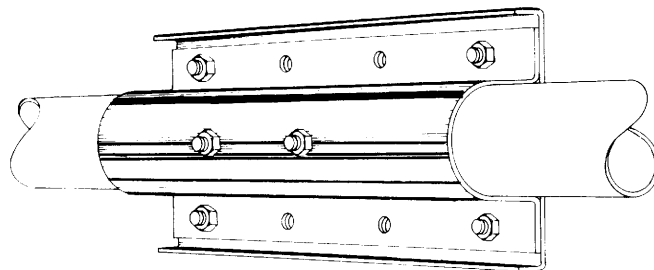

Figure 3
Select the boom-to-bracket clamp parts (items 2 and 3). Loosely assemble them on the drilled ends of the two boom sections (item 8) using the $\frac{1}{4}$ "-20 x $\frac{3}{4}$ " bolts and the $\frac{1}{4}$ " nuts and internal lockwashers. Secure the boom to the bracket using the two $\frac{5}{16}$ "-18 x $2\frac{3}{4}$ " screws, nuts, and lockwashers provided. See Figure 3.